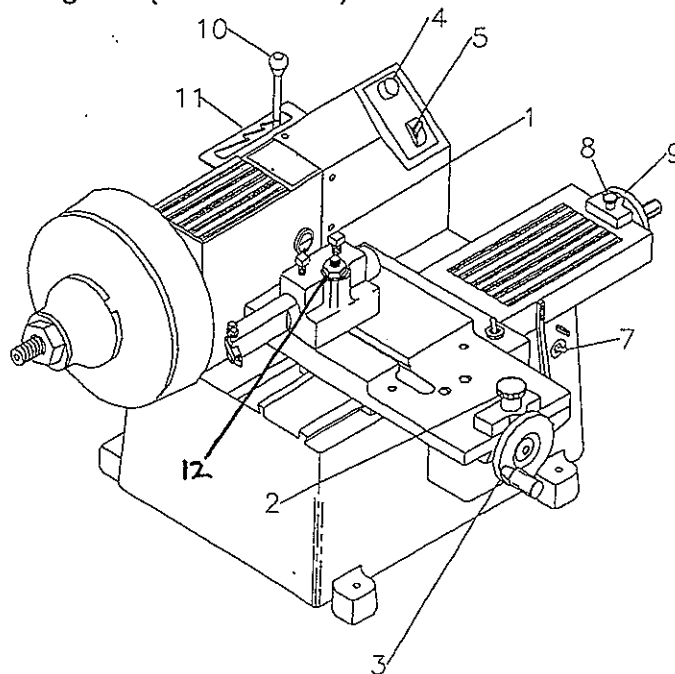

Fig.4 Lathe controls for refinishing drums
This machine is equipped with variable spindle speeds. There are four speed selections – 85/110/140/185 RPM. The speed change lever (10, figure 4) is located at the rear of the machine behind the control panel. The lever rides in a speed selector plate (11, figure 4) that is notched for each speed. High speed (185) is all the way to the right and low speed (85) is on the left. To change speeds, position lever in the notch labeled with the desired speed.
..loosen the boring bar lock bolts (1, figure 4) and both cross-slide and main-slide carriage feed locking knobs (2 and 8, figure 4)
..slide the boring bar inward or outward and turn the cross-slide and main-slide carriage feed handwheels (3 and 9, figure 4) to position the cutting tool bit over the braking surface of the drum.
NOTE: Be sure the cutting tool will travel over the full surface of the drum before the automatic feed switch (7, figure 4) shuts off and stops the travel of the carriage.
..tighten the drum turning attachment center post locking nut (12, figure 4). Then tighten the two boring bar lock bolts (1).
..turn the handwheel (3, figure 4) counter-clockwise until the cutting tool touches the drum surface
..turn the main-slide carriage feed handwheel (9, figure 4) and move the carriage in until the cutting tool bit is just inside the undercut of the drum.
..turn variable speed feed control (4, figure 4) to a desired setting. **NOTE:** The carriage feed speed ranges from 0" to .008" per revolution. Do not try to cut too much at one time. Smaller cuts (low carriage feed speed) produce a finer finish.
..with depth of cut set, tighten the carriage feed locking knob (2, figure 4). After initial setup, tighten all locks and turn the automatic carriage feed switch "ON" (7, figure 4) **NOTE:** The carriage feed will stop automatically when the cut is complete. The cutting tool boring bar and cutting tool bit feeds from inside of the drum outward.
..if a second cut is necessary, loosen the carriage feed locking knobs (2 and 8, figure 4) and repeat above procedure